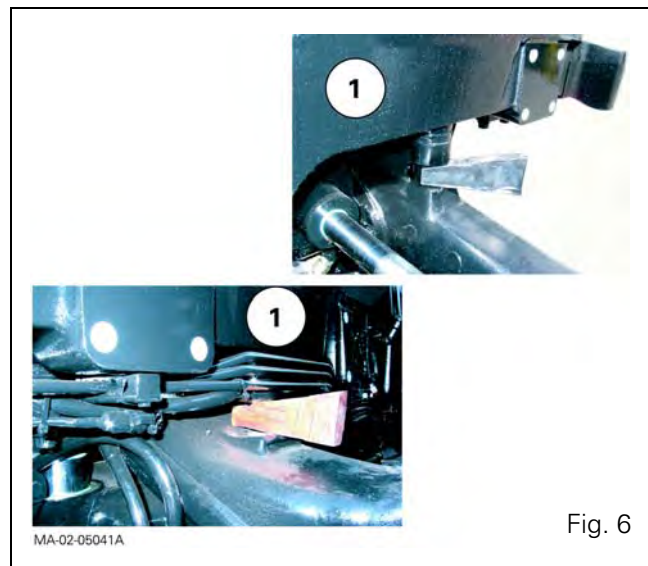

Fig. 6
17. Cancel the front axle oscillation (all versions) by sliding a suitable chock in at each side of the support (1) (Fig. 6).